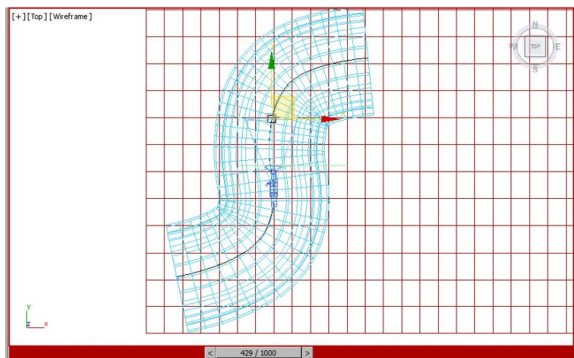

Figure 14-33 The position of the *Camera001.Target* at frame 429
15. Move the time slider to frame 429 by entering the frame number in the Current Frame (Go to frame) spinner. Now, align *Camera001.Target* with *path*, as shown in Figure 14-33.